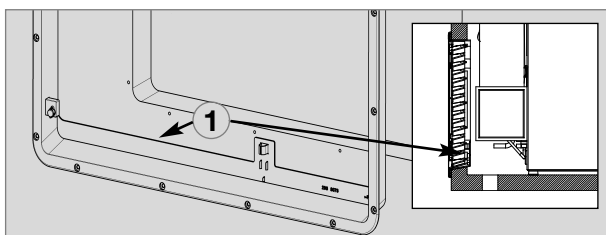

Fig. 16
Ventilation is provided for the unit by means of two apertures (ventilation grilles) in the caravan wall. Fresh air enters at the bottom, extracts the heat and exits through the upper vent grille (chimney effect). **The upper ventilation grille should be positioned as high as possible above the cooling unit (Fig. 11). Install the lower ventilation grille at floor level of the recess floor (Fig. 16), allowing unburnt gas (heavier than air) to escape directly into the open air. The gas burner must be located above the edge (1) ..**